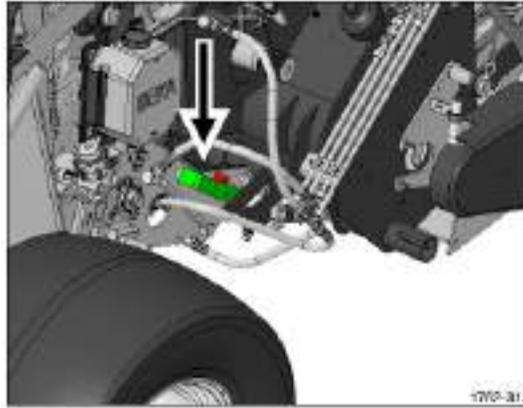

Figure 52. Knife axle lever
- Rotate knife axle lever down and forward 90 degrees until it contacts lower stop (see Figure 52 on page 7-32).